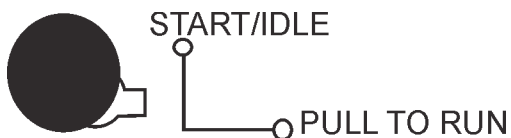

Figure 51. Engine Throttle Control Lever (High)
9. If the engine is running smoothly with no problems, pull and place the engine throttle lever (Figure 51) in the “**HIGH**” position”.